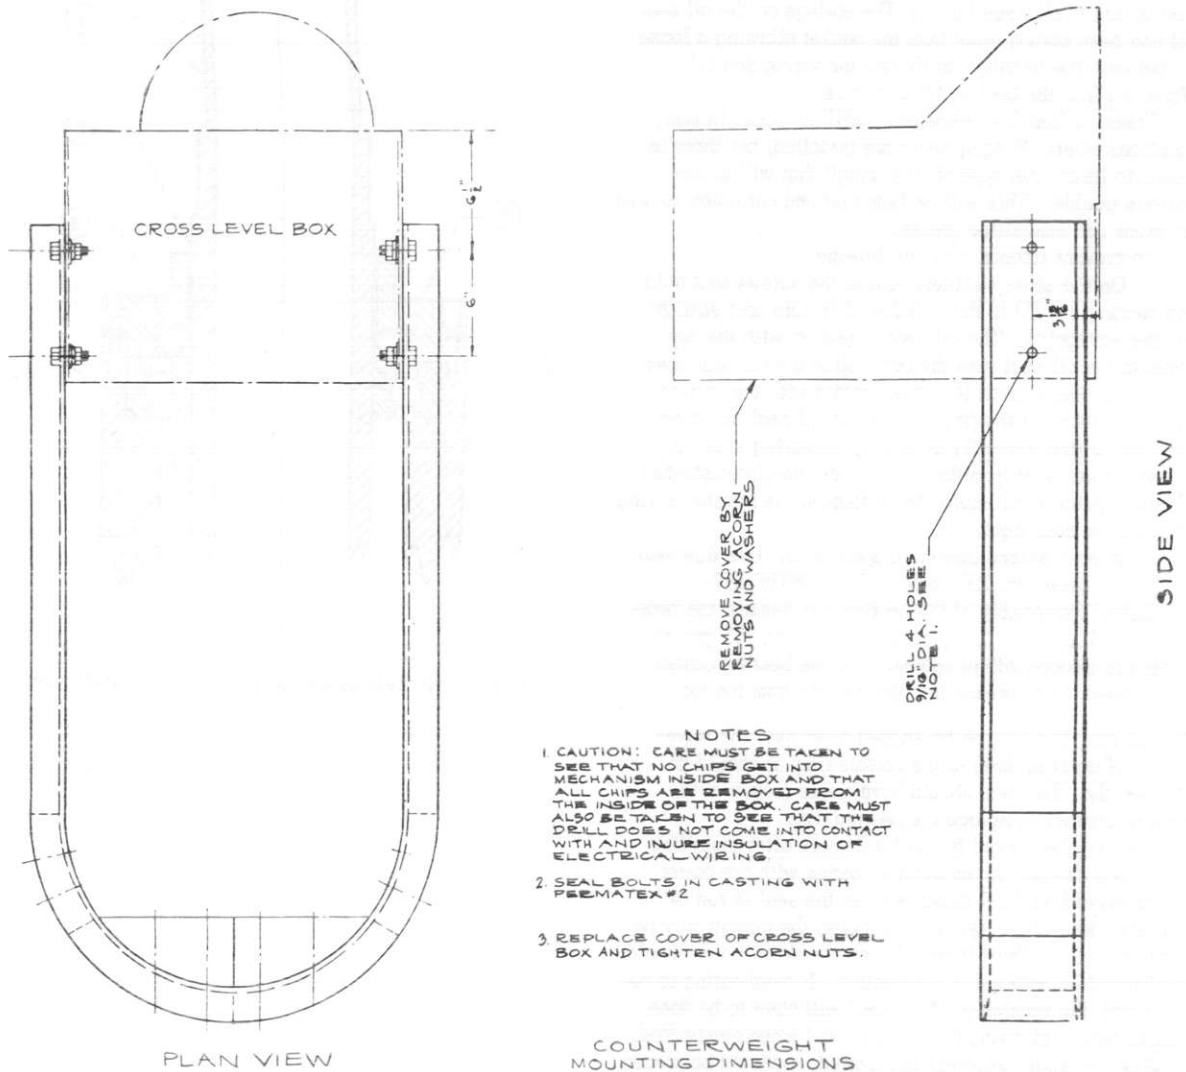

FIGURE 1.—Bureau of Ships Drawing RE 10F610A.
Investigation showed that water had run into the wobbler at point (2). (see fig. 1.) The springs on the oil seal (3) had been sprung away from the gasket allowing a loose fit between the bearing cap (5) and the waveguide (1). Water got into the bearing (4) and froze.